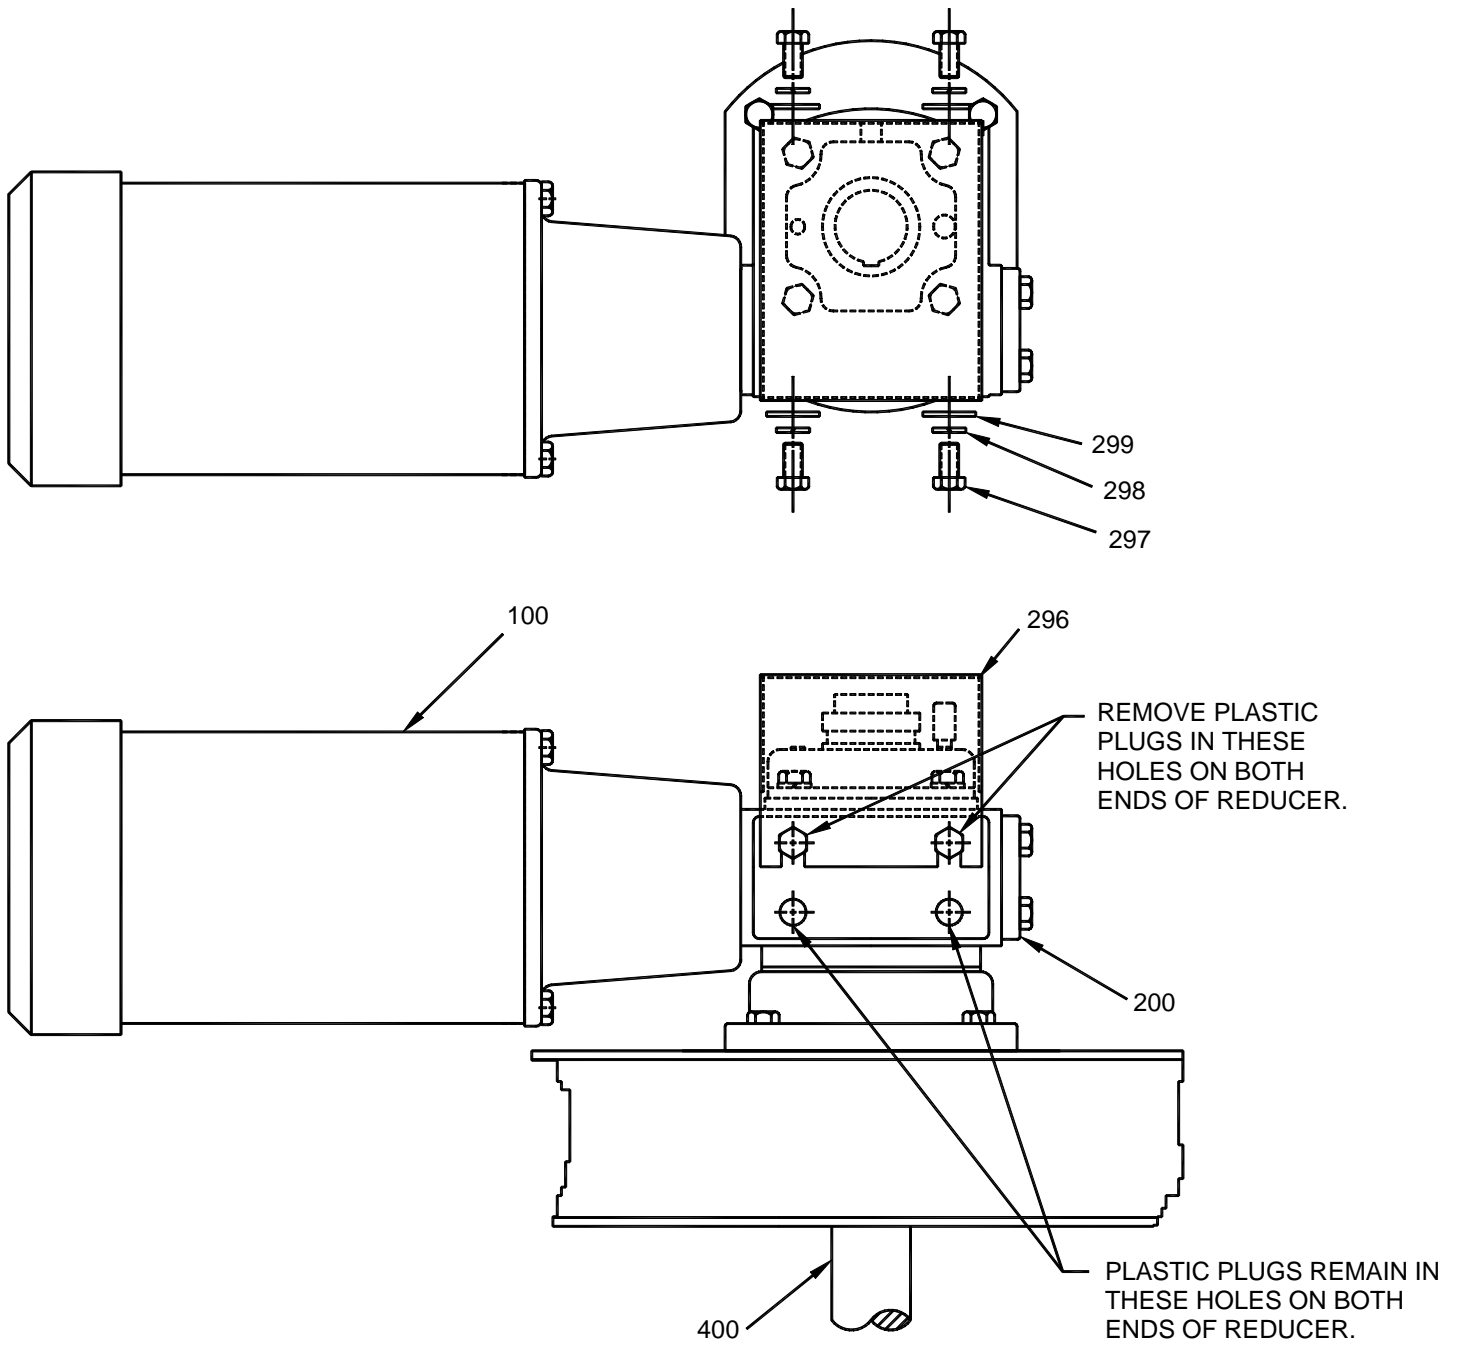

Figure 4: Shaft Guard Installation
7. Eight plastic plugs have been inserted into the two opposite sides of the reducer. Remove the upper two plugs on each side and install shaft guard [296] as shown in *Figure 4, page 8*.